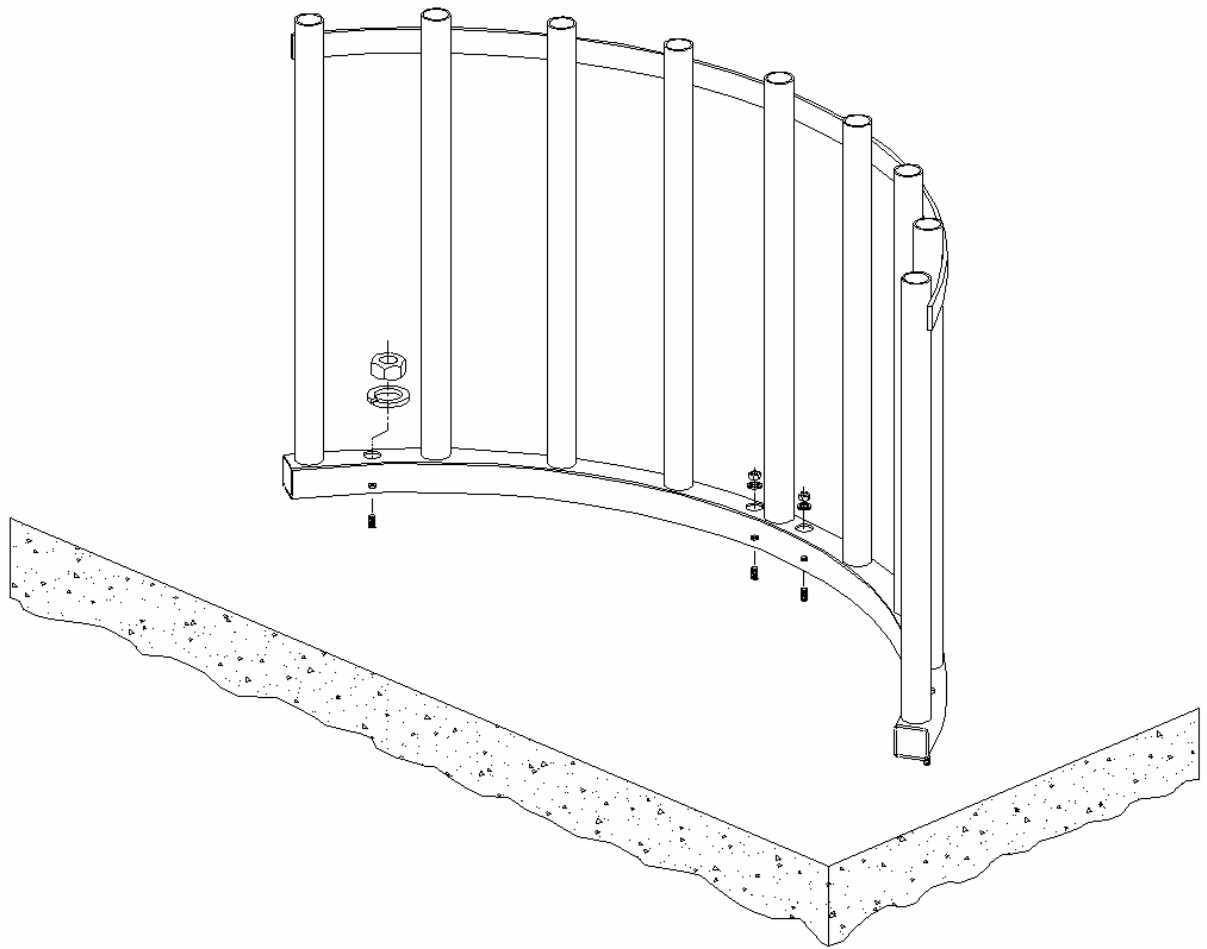

Figure 14
6. Install shield assembly on anchor studs and secure with washer and nut. See Figure 14.